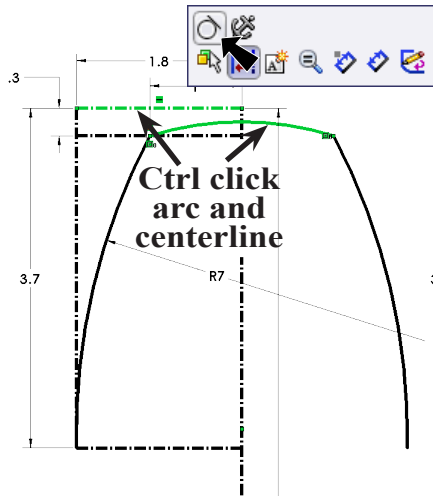

Fig. 11
Step 4. **Ctrl click arc and top construction line** to select both. Release Ctrl key and click **Make Tangent**  on the Content menu, **Fig. 11**.